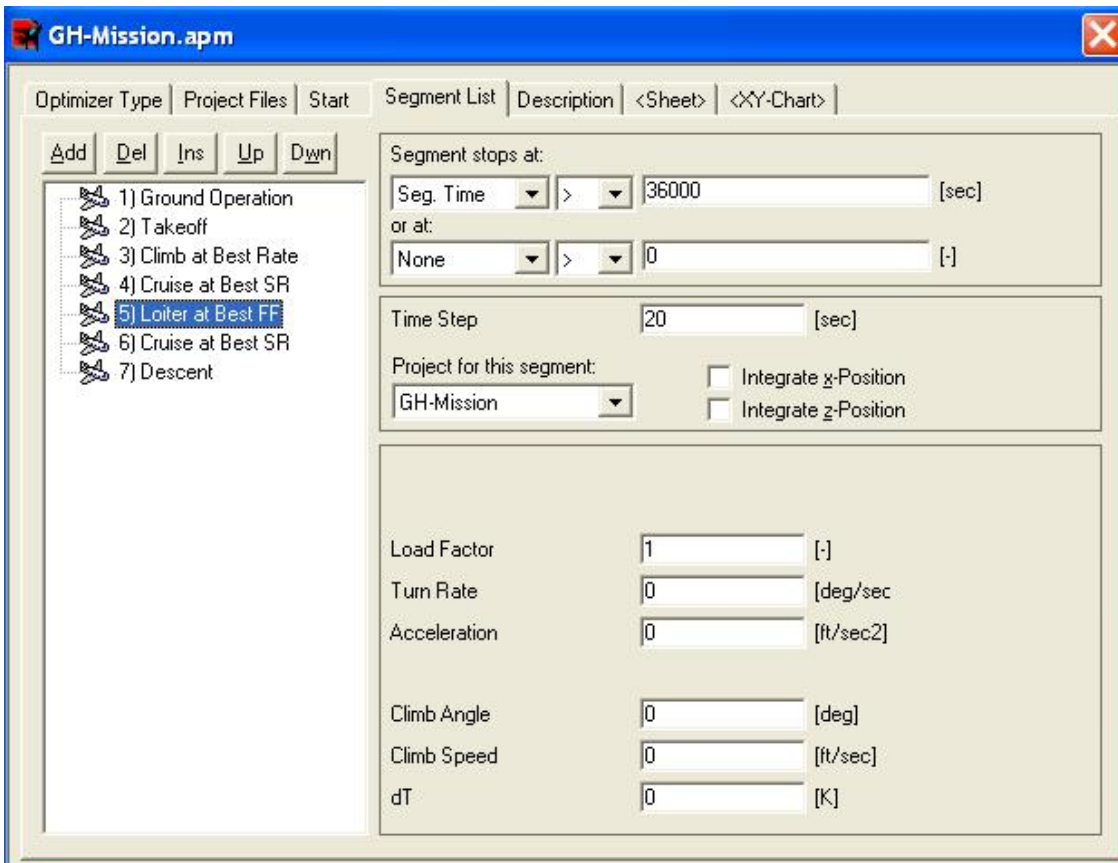

Figure 3-12. Segment List tab of Mission Module (5th Segment)
The fifth segment is loiter at best fuel flow (FF). Details of the third segment are shown in Figure 3-12.